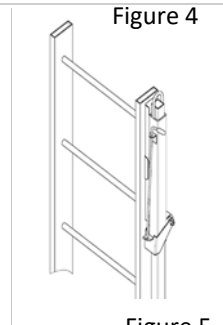

Figure 5
1. Safety Post may be mounted on one of the ladder risers by drilling 7/16" holes in the ladder riser and bolting through as shown in Figure 5.